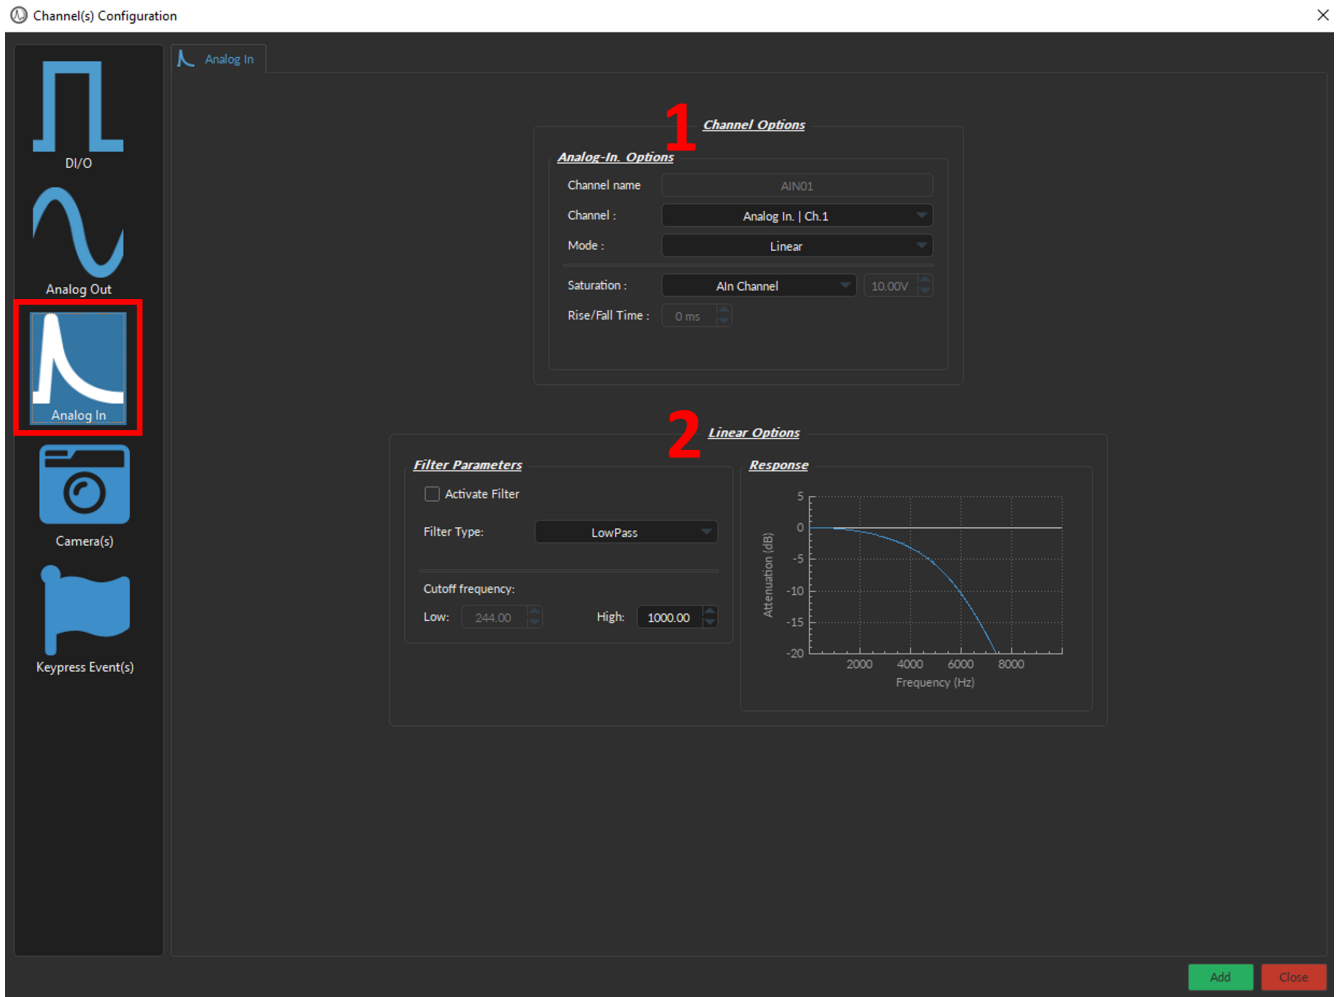

Figure 6.26: *Channel(s) Configuration, Analog Input*
The *Channel(s) Configuration* window for the **Analog Input** is divided into two sections (Fig. 6.26): (1) the **Channel Options** (Section 6.4.5.1) and (2) the **Mode-specific Options** (*Linear*, Section 6.4.5.2; *Interleaved*, Section 6.4.5.3; *Lock-In*, Section 6.4.5.4).